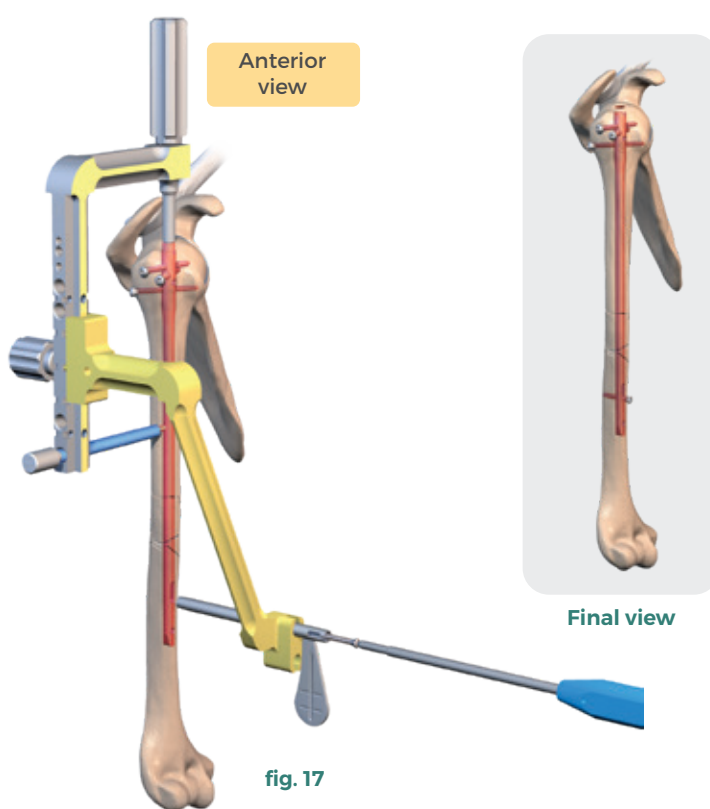

fig. 17
• Remove the blunt tip drill guide sleeve (**ref. 270 822**) and fit the distal screw using the 2.5 mm screwdriver (**ref. 233 339**) (**fig.17**).